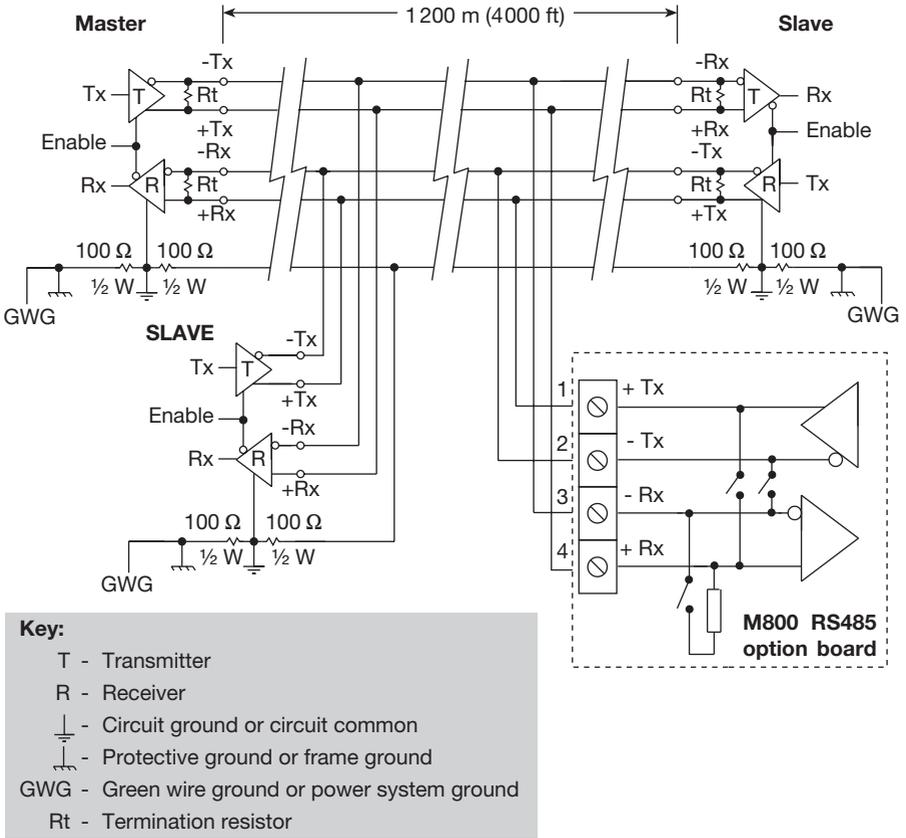

Fig. 29 Typical RS485 four-wire multi-drop network
- See Figure 29, for a typical installation.